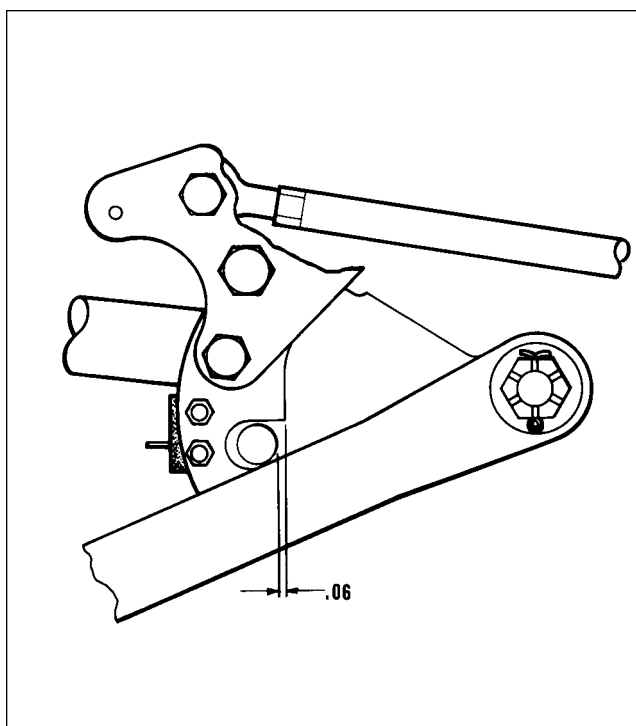

Figure 32-22. Adjustment of Nose
2. The down limit switch should actuate only after the leading edge of the downlock hook, when moving to the locked position, has passed the downlock roller by .06 of an inch. (Refer to Figure 32-22.) Position the hook at this location in relation to the roller by moving the actuator piston manually toward the up position. The downlock spring may be disconnected, if desired.